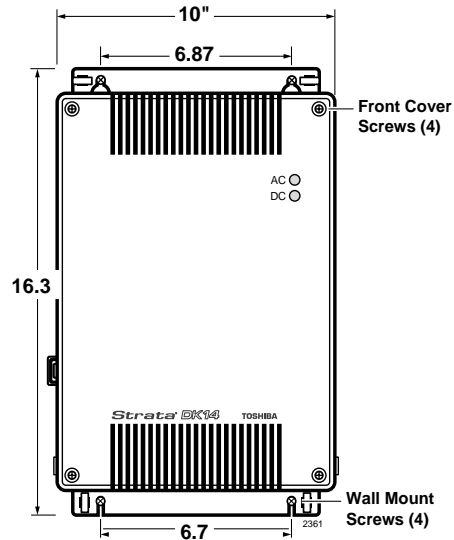

Figure 1-3 DK14 Dimensions
1. Loosen the screws on the front cover of the KSU, and remove the cover (Figure 1-3).
2. Place the KSU on the desired location on the mounting surface and mark the location of the four screw holes (there is one on each corner). See Figures 1-3 and 1-5.